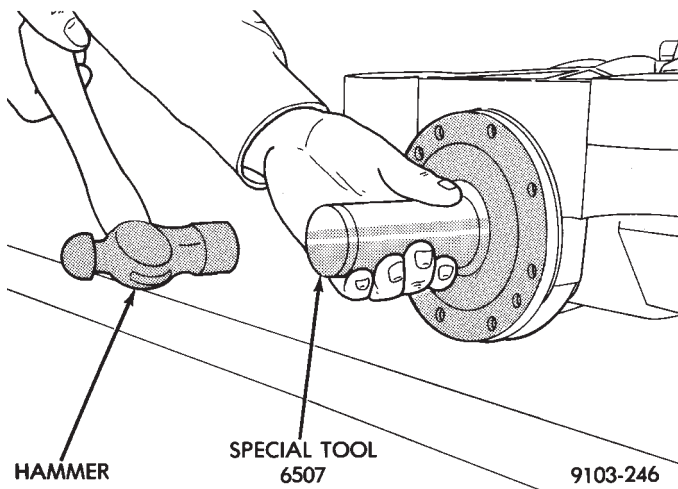

Fig. 11 Input Seal Installation
- (1) Clean and inspect seal area.
- (2) Apply a light coat of oil onto the drive pinion seal and install with Seal Installer 6507. Seal must be installed with the spring side in towards the rear carrier case (Fig 11).